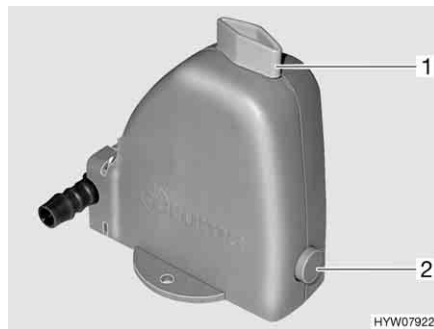

Fig. 187 Safety/drainage valve of the boiler
The boiler is equipped with a safety/drainage valve (Fig. 187). The safety/drainage valve prevents water in the boiler from freezing, when there is frost and the heater is not switched on.
- Close the safety/drainage valve. Turn the knob (Fig. 187,1) perpendicular to the safety/drainage valve and push the push button (Fig. 187,2) in.
- Open the safety/drainage valve. To do this turn the knob (Fig. 187,1) parallel to the safety/drainage valve. The push button (Fig. 187,2) jumps out. The boiler is drained to the outside by the safety/drainage valve.